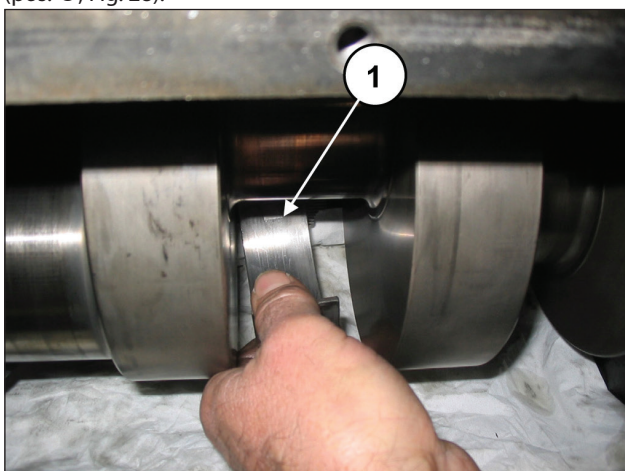

Fig. 28
Remove the three upper half-bearings of the half-conrods (pos. ①, Fig. 28).